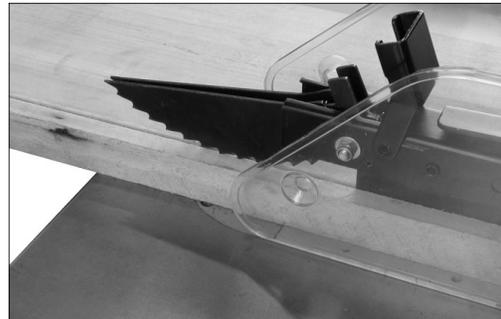

Figure 30
- ❑ As the machine receives use, the operation of the anti-kickback pawls should be checked periodically (Figure 30). If the pawls do not stop the reverse motion of a workpiece, resharpen all the points.